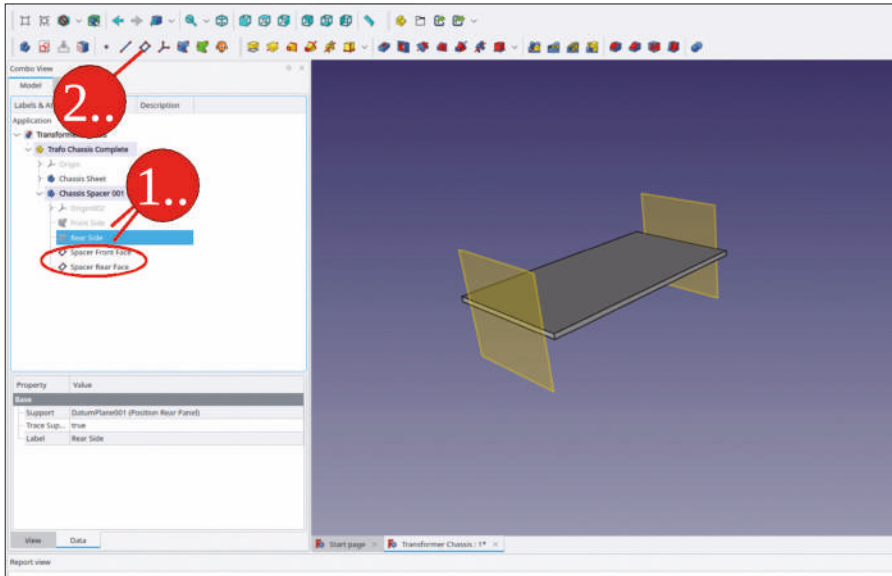

Figure 9-58
25. In the same way, create another datum plane for the shape binder 'Rear Side' and rename it to 'Spacer Rear Face' (Figure 9-58). In the tree view, hide the two shape binders 'Front Side' and 'Rear Side'.